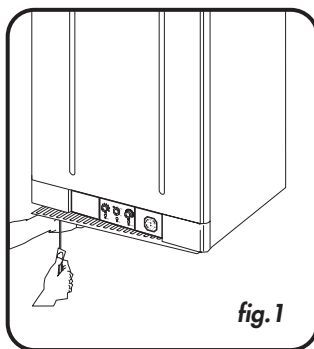

fig.1
- Undo the two grating screws (fig.1)